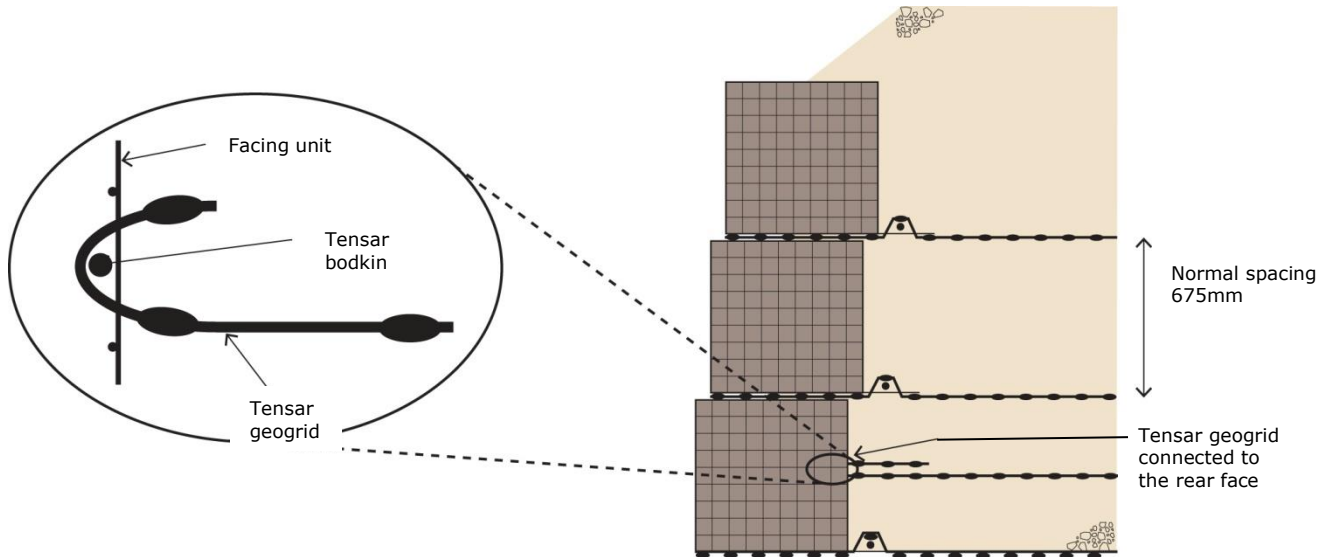

Figure 6 – Additional Tensor geogrid connected to rear of facing unit if specified
32. In some circumstances such as in particularly high structures, additional Tensor geogrid reinforcement layers may be detailed at half or even one-third height of the facing units. In this situation the Tensor geogrid may be connected to the rear face of the TensorTech RockWall facing unit with a Tensor bodkin (refer to Figure 6). The bodkin connection should be made prior to commencement of rock filling of the face unit. After the unit has been filled, the full length of connected geogrid can be folded forward to hang over the face of the units allowing placement and compaction of the structural fill. Filling should continue up to the geogrid level. The geogrid can then be folded back and laid flat. Tighten the bodkin joint as in Item 24 and continue with the fill process.